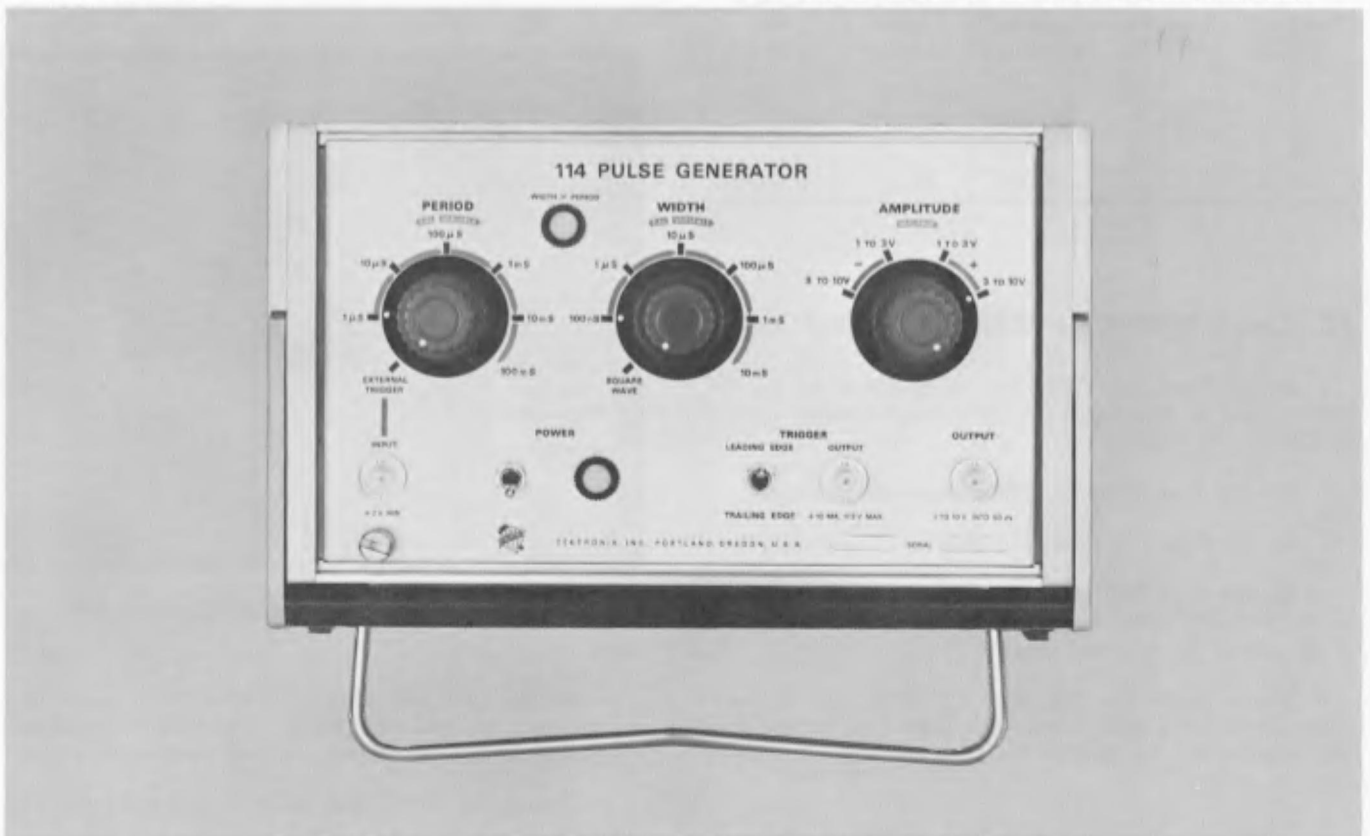

Fig. 4-14. Control settings for adjusting 100 nS Pulse Width capacitor C195F.
- a. Set the Type 114 WIDTH switch to 100 nS, set the PERIOD switch to 1 μ S (see Fig. 4-14).
- b. Set the Type 547 TIME/CM (B) to .1 μ SEC.